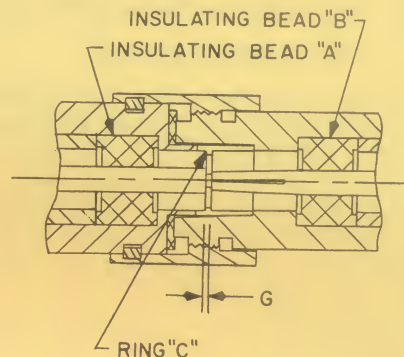
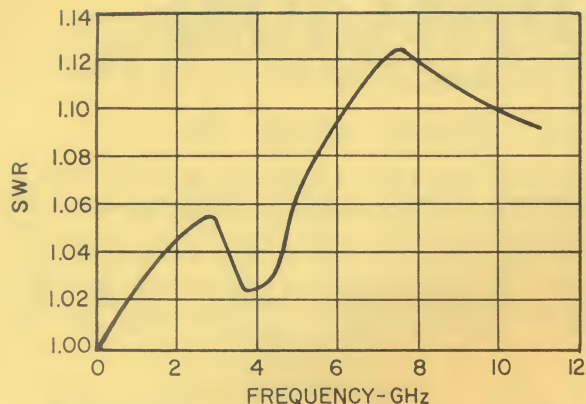

Fig. 1b Type N union per MIL-C-71.
Fig. 2a SWR of a zero tolerance type N union per MIL-C-71. Data shown was obtained from an experimental model. (See Text.)
To start with, the gap G in Figure 1b was 0.026 inch ($0.026 \times S$ in the model). This was the distance between the end of the Slotted pin in the jack and the beginning of the 0.120 inch diameter inner conductor in the Plug. The SWR obtained under these conditions is as shown in Figure 2a.
Except for some variations in SWR due to relatively minor changes in the insulating beads which are used in connectors with the several different sizes of cables, the SWR shown in Figure 2a was believed to be the contribution of a "zero tolerance Type N Connector Union."
When various dimensions of the connector were varied within their specified tolerances a variety of SWR curves were obtained; the curve in Figure 2a may be (somewhat loosely) regarded as an average curve of the MIL-C-71 Union.
In Figure 2b is shown the SWR of the Type N union of Figure 1b with insulating beads A and B removed and replaced with 0.2763/0.1200 coaxial air lines.
2) The setback of the slotted inner conductor pin is made 0.214 inch which corresponds to a gap $G=0.009$ inch. It had been found that the capacitance introduced by the compensating outer conductor ring C in the MIL-C-71 plug, see Figure 1b, just compensates for a gap $G=0.009$ inch, but not 0.026 inch.
Fig. 2b SWR of a zero tolerance Type N Union with insulating beads A and B removed. (See Fig. 1b.) Data shown was obtained from an experimental model. (See Text.) *